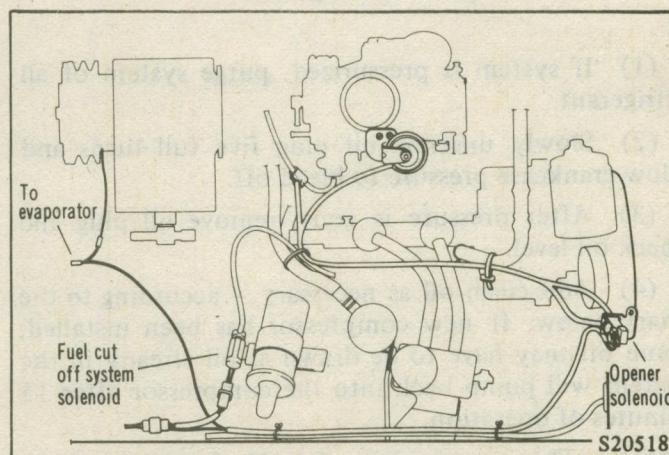

Fig. 34 Wiring for Throttle Opener
- (7) Wiring to deceleration fuel cut off solenoid and air conditioning compressor must be performed as belows.
- Disconnect the connector between compressor and evaporator, and then connect connectors of the harness in the kit between original connectors as shown in Fig. 34.
- Disconnect the connector between deceleration fuel cut off system solenoid and wiring harness and then connect other connectors of the harness in the kit between original connector as shown in Fig. 34.